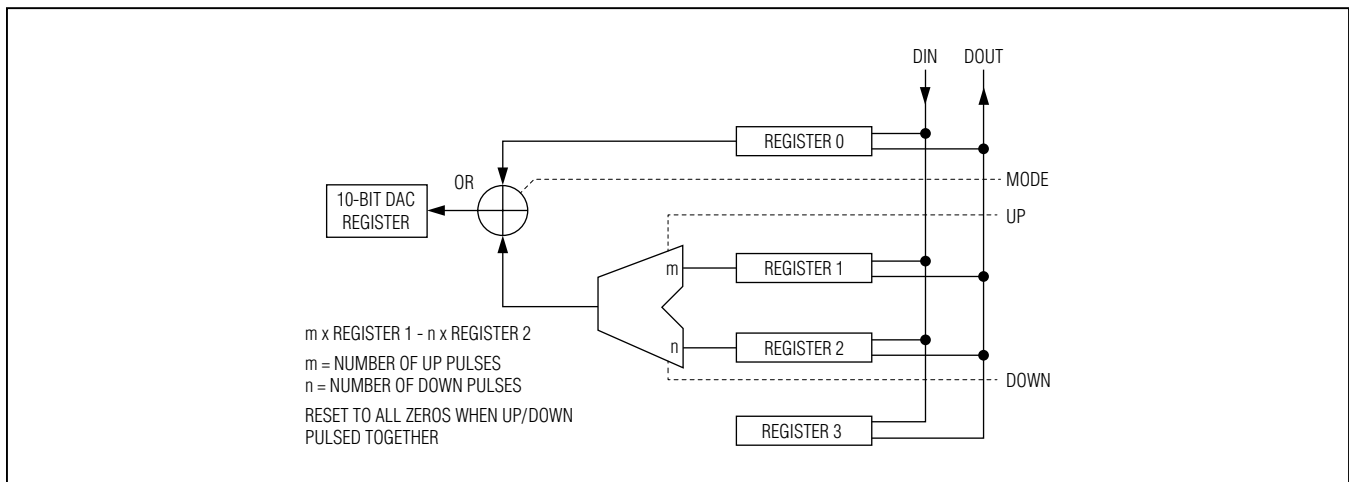
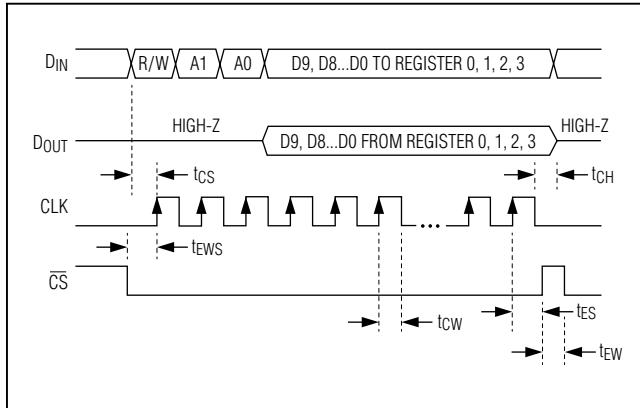
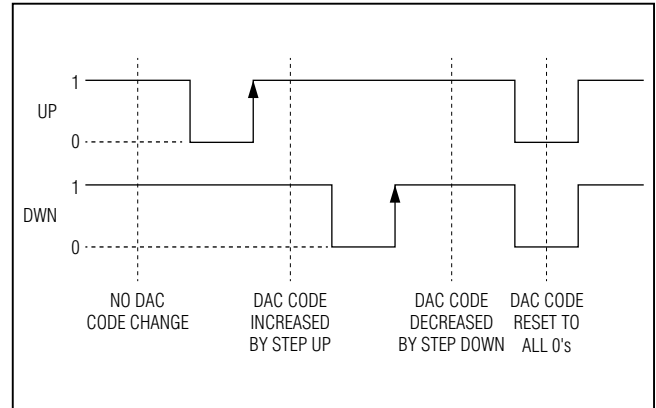

Figure 1. Register Configuration Diagram
Figure 2. SPI Timing Diagram
Figure 3. UP DWN Control Diagram (Mode = 1)
Figure 1 shows the configuration of the internal registers of the device, and Figure 2 shows the timing of the SPI bus. Register 0 is used to set the DAC code to the desired value, register 1 selects the step-up code, and register 2 selects the step-down code.
in Figure 1. This is applied to the 10-bit DAC register that drives the DAC. To increase (decrease) the code using the UP (DWN) pin, the DWN (UP) pin must be high and the UP (DWN) pin should be pulsed low to high. The part is designed to produce no wraparounds when using UP and DWN stepping, so the DAC code maxes out at 1023 or goes no lower than 0. See Figure 3 for the UP and DWN control operation.
The device can be controlled with a 4-wire SPI-compatible serial interface. Figure 2 shows a timing diagram for the interface. In the write mode, a 13-bit word is loaded into the device through the DIN pin with $\overline{\text{CS}}$ set low. The first bit of the word in the write mode is 0, and the next two bits select the register to be written to. See Table 2. The next 10 bits contain the data to be written to the selected register. After the 13 bits are shifted in, a low to high $\overline{\text{CS}}$ command is applied and this latches the 10 bits into the selected register. The entire write command is ignored if $\overline{\text{CS}}$ is pulsed low to high before the last data bit is successfully captured.
| Logic 0 Pulse | Logic 1 | Increase DAC code* by amount located in register 1. UP pulsed from high to low to high (Figure 3). |
| Logic 1 | Logic 0 Pulse | Decrease DAC code* by amount located in register 2. DWN pulsed from high to low to high (Figure 3). |